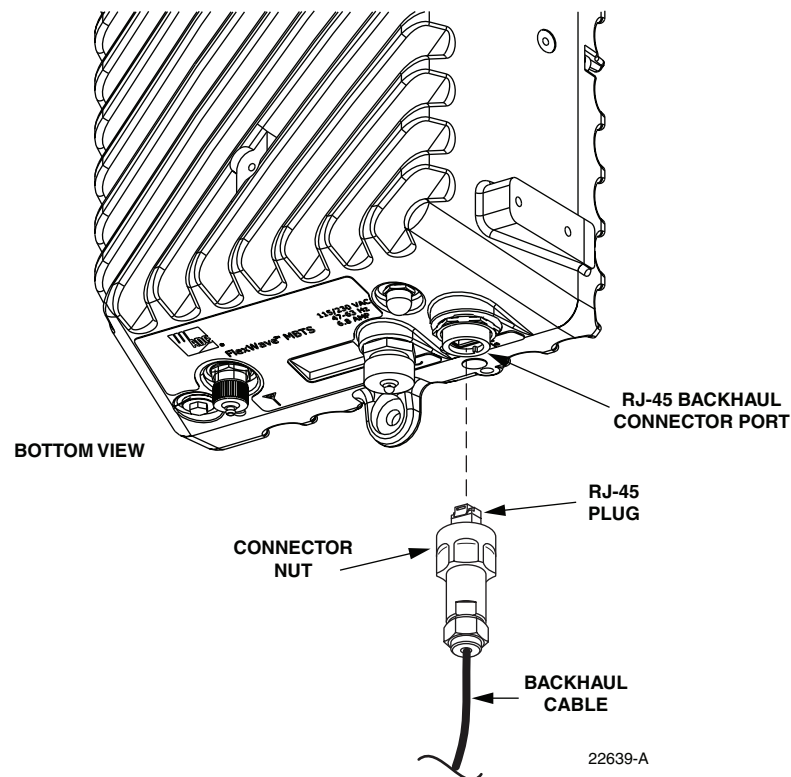

Figure 12. IP Backhaul Cable Installation
1. Remove the dust cap from the RJ-45 connector located at the bottom of the enclosure as shown in Figure 12.